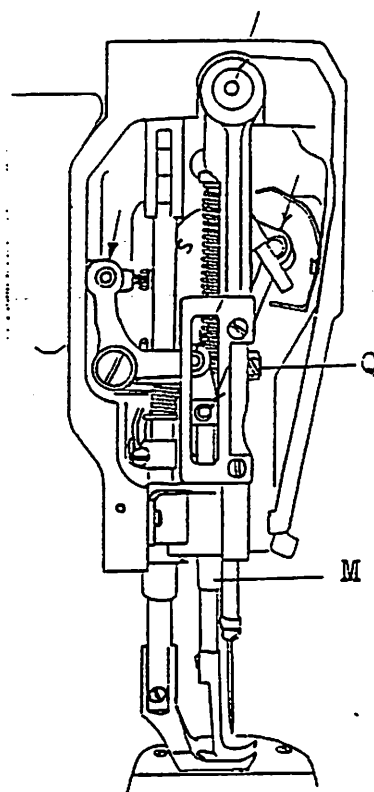
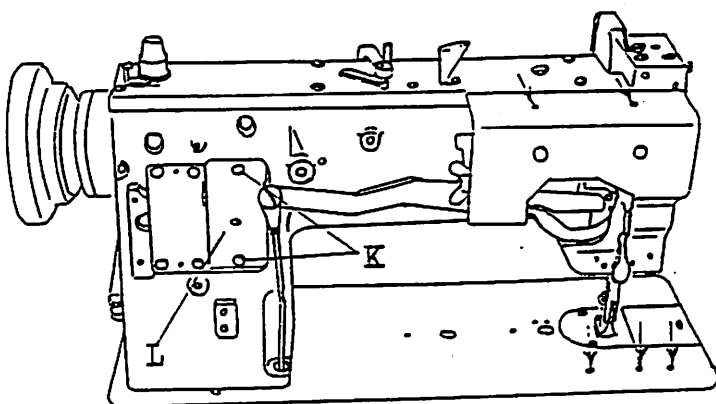
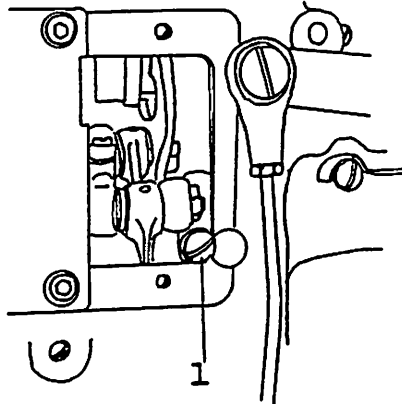

Fig. 4
Fig. 2
Fig 20
1. Loosen the screw(K, Fig 4) and remove the cover(L, Fig 2).
2. Loosen the screw(1, Fig 20).
3. Holding the bottom of the needle bar rock frame(M, Fig 4) move it so as to put the needle to the center of the needle hole on the feed dog and tighten the screw(1, Fig 20).
4. Tighten the screw(K, Fig 2) and close the cover(L, Fig 2).